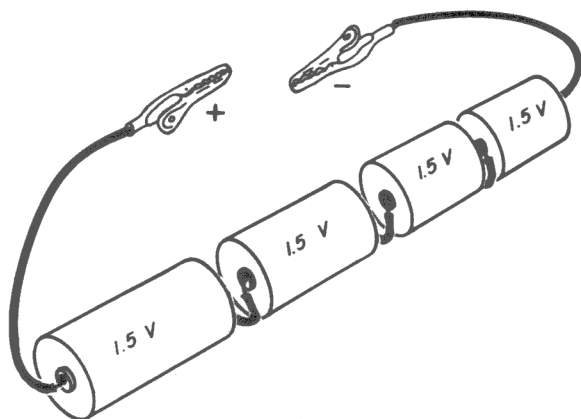

Fig. 14-6
Step 3. Solder 6-inch leads to the positive and negative terminals of this 6-volt battery, and to the free end of each lead solder an alligator clip, as shown in Fig. 14-6.